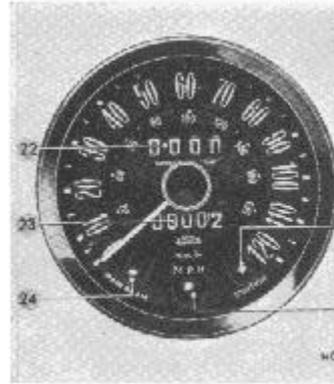

Fig. 7
- Fig. 7
Additional to indicating the road speed of the vehicle in miles and kilometres per hour, the instrument shown on Fig. 3 combines the indicators and warning devices (22 to 26, see Fig. 7).
Trip Odometer (22, Fig. 7)
Odometer (23, Fig. 7)
Main Beam Warning Light (24, Fig. 7)
Oil Pressure Warning Light (25, Fig. 7)
Ignition Warning Light (26, Fig. 7)